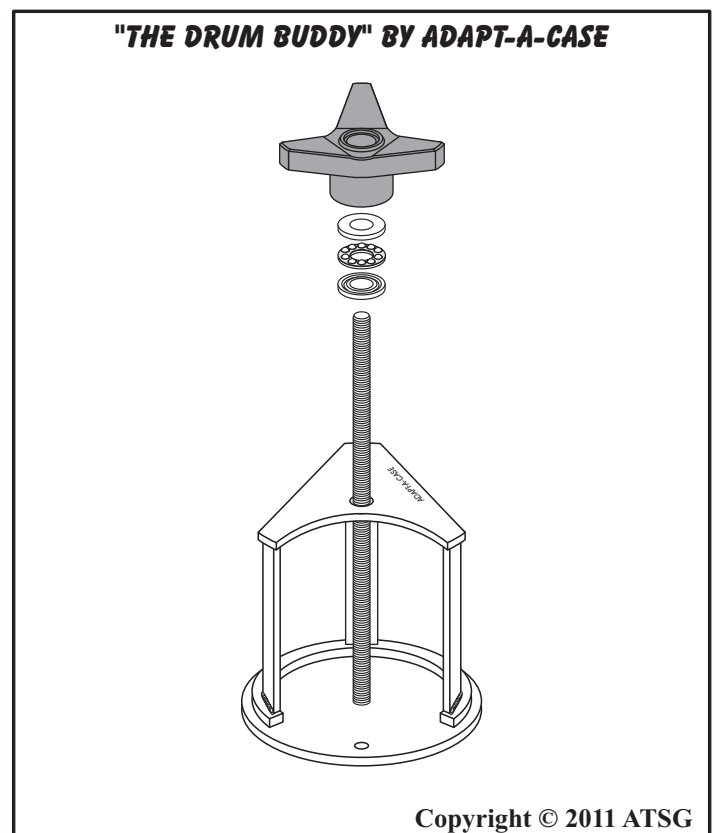

Figure 74
21. The "Drum-Buddy" from Adapt-A-Case works very well, on a wide variety of units, and is shown in Figure 74.